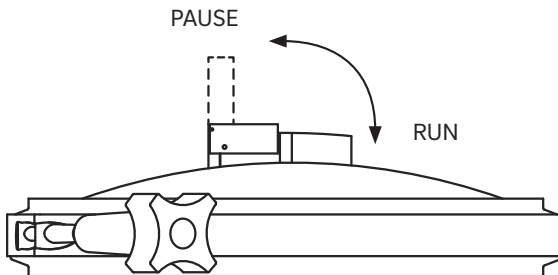

Figure 3
1. To pause your system, raise the black lever on the clear lid to the full vertical position so that it locks in place (Figure 3).